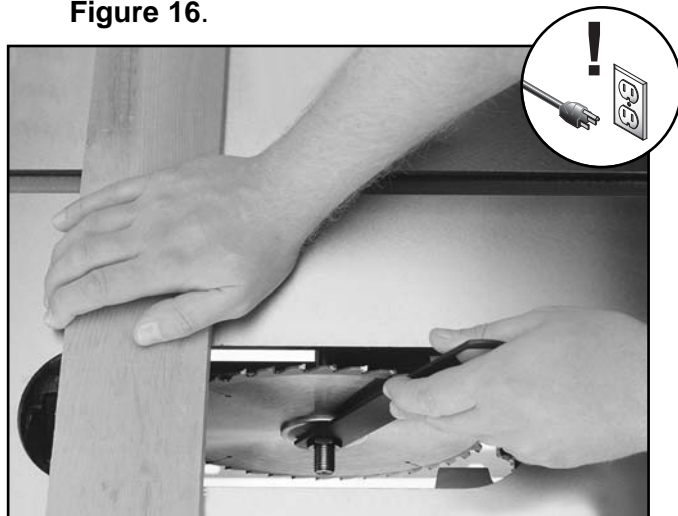

Figure 16. Changing saw blade.
5. Use the arbor wrench provided with the saw to tighten the arbor nut. Wedge a block of wood in the teeth of the blade to keep it from turning when tightening the nut as shown in **Figure 16**.